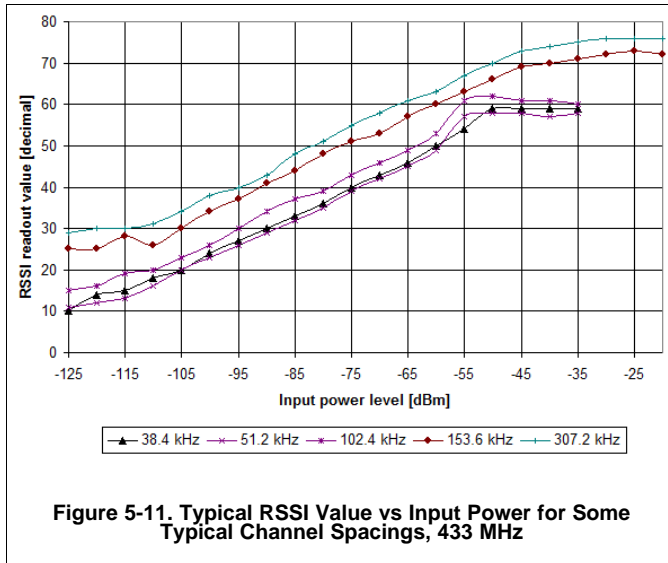
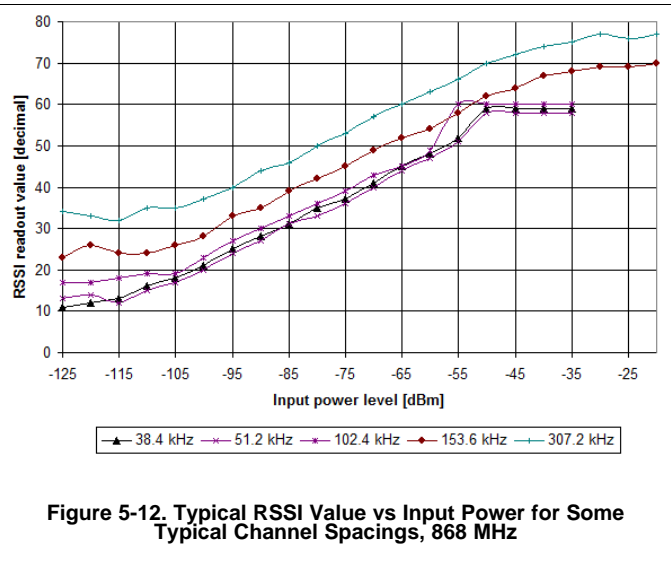

Figure 5-11. Typical RSSI Value vs Input Power for Some Typical Channel Spacings, 433 MHz
Figure 5-12. Typical RSSI Value vs Input Power for Some Typical Channel Spacings, 868 MHz
The RSSI_Offset depends on the channel filter bandwidth used due to different VGA settings. Figure 5-11 and Figure 5-12 show typical plots of RSSI reading as a function of input power for different channel spacings. See Section 5.9.5 for a list of channel filter bandwidths corresponding to the various channel spacings. Refer to *AN030 CC1020/1021 Received Signal Strength Indicator* (SWRA062) for further details.
The method shown in Equation 21 can be used to calculate the power (P) in dBm from the RSSI readout values in Figure 5-11 and Figure 5-12.
RSSI_ref is the RSSI readout value taken from Figure 5-11 or Figure 5-12 for an input power level of P_ref.
The analog filter has a finite dynamic range and is the reason why the RSSI reading is saturated at lower channel spacings. Higher channel spacing is typically used for high frequency deviation and data rates. The analog filter bandwidth is about 160 kHz and is bypassed for high frequency deviation and data rates and is the reason why the RSSI reading is not saturated for 200 kHz and 500 kHz channel spacing in Figure 5-11 and Figure 5-12.